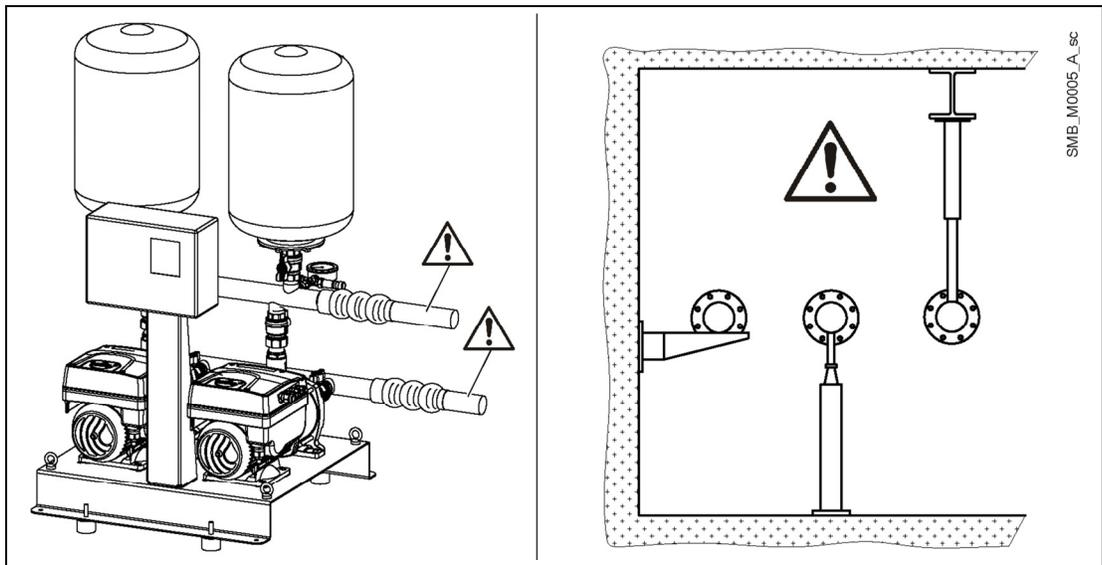

Figure 7: Unit installation
- The unit must be installed according to Figure 7.
To prevent undue stress, expansion joints and suitable pipe supports should be provided (Figure 7). The weight of the pipes and tanks increases when they are filled with water. Before starting the set, make sure you have closed and tightened all the unused couplings.